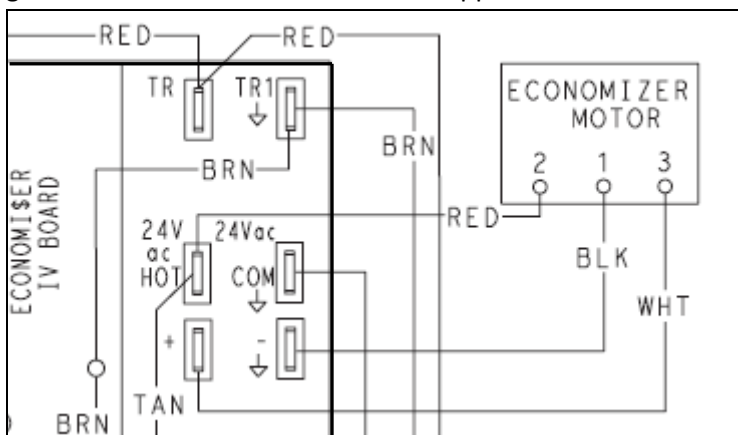
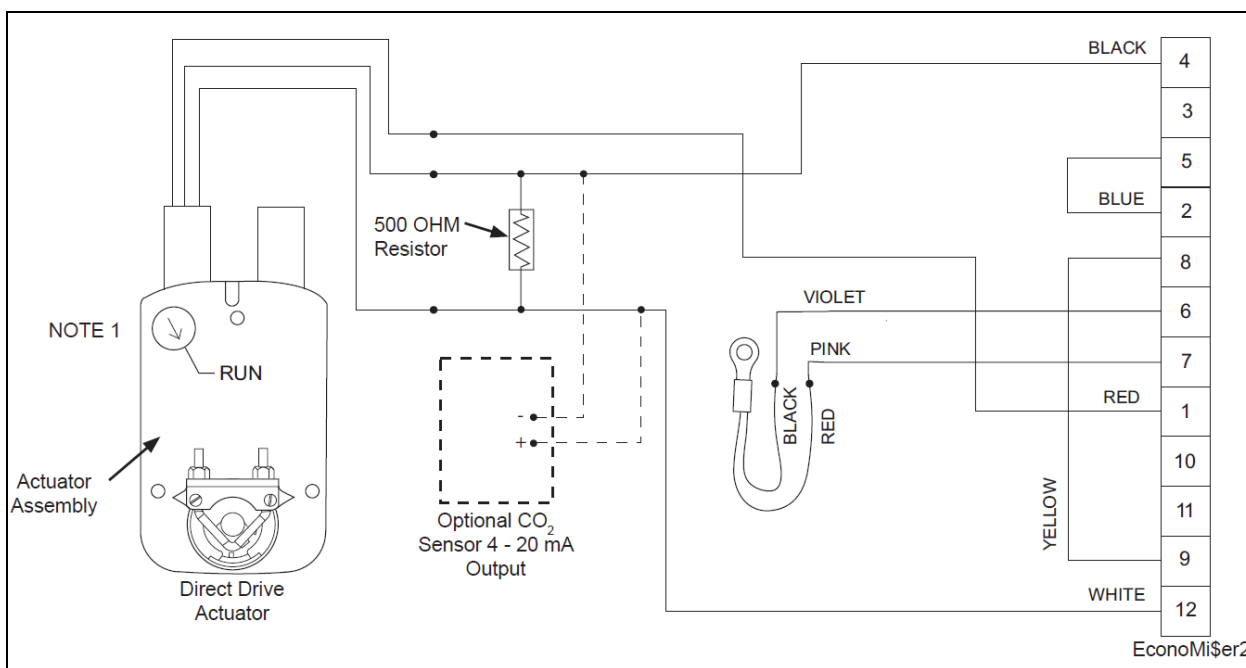

FIGURE 4 – WIRING TO ACTUATOR ON ELECTRO-MECHANICAL ECONOMIZERS
FIGURE 5 – WIRING TO ACTUATOR ON DIRECT DIGITAL CONTROL ECONOMIZERS
4. Disconnect the existing actuator from the economizer harness by unplugging the (3) ¼" terminals. Wire colors are red, black and white. See figure 4 for typical electro-mechanical economizer diagram and figure 5 for typical DDC economizer diagram. These are shown for wire color connections to the actuator only, and other details may vary.
5. Loosen the (2) nuts on the Belimo actuator's drive rod clamp. The drive rod is now loose from the actuator.
6. Remove the (2) bolts holding the existing Belimo motor to the economizer, and remove and discard the Belimo actuator.
12. Connect the wires from the new HF23BL003 actuator to the existing economizer harness, using the same wire color connections as on the old Belimo actuator. See figures 4 and 5. Note the Siemens actuator will have a green wire that is not used for these applications.